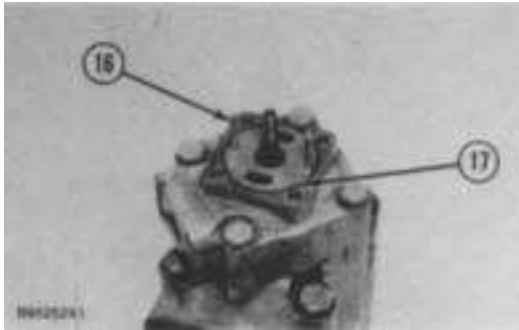

FIGURE 7-16
9. Remove the O-ring seal (17, Figure 7-16) and pins (16).